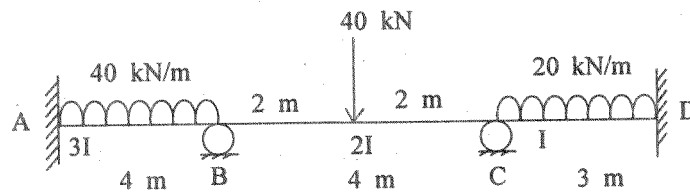

Fig. 5
13. Using Kani's method, analyse and draw BMD for the continuous beam shown in Fig. 5.